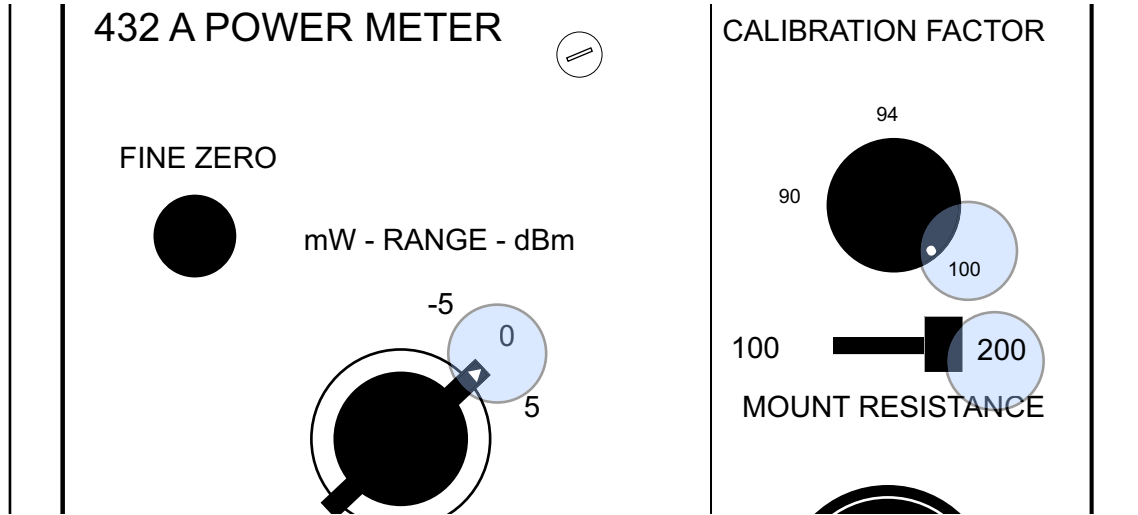

Figure 3-4. Power Meter Settings
6. On the front panel of the 432A power meter, set the Mount Resistance to 200 ohms as shown in Figure 3-4.